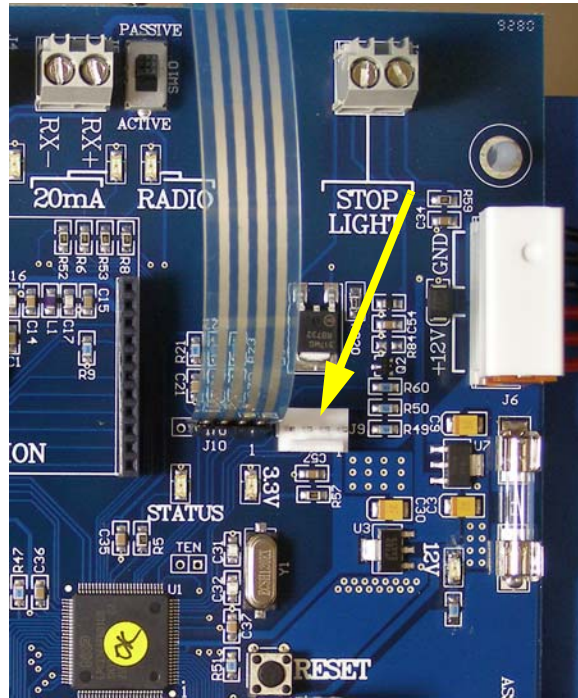

Figure 10.2 J9 terminal for temperature probe connection
6. Plug the Temperature Probe connector into the terminal (J9) on the Controller Board. See Figure 10.2.